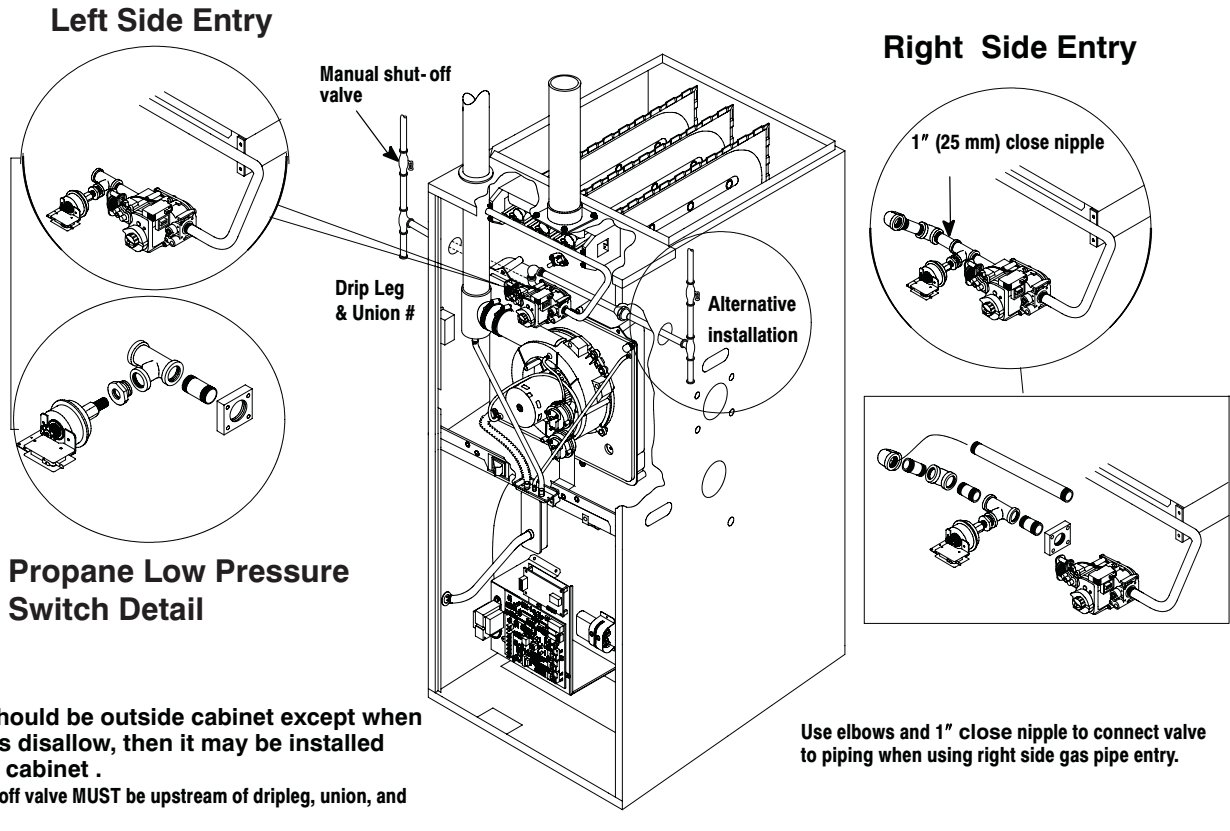

Fig. 7 - Typical Gas Piping and Adding Propane Low Pressure Switch
2. Using pipe joint compound that is resistant to Propane gas, tighten the fitting assembly into the inlet side of the gas valve. (Fig. 7). Position fitting assembly as shown.
4. Remove one yellow wire from the low fire pressure switch. Connect this wire to the male insulated yellow wire in the wire harness provided. (See Fig. 7.)